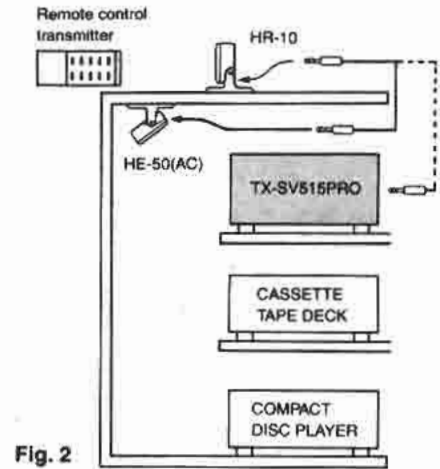

Fig. 2
- To enable remote control operation when the TX-SV515PRO is mounted in a rack which will not permit infra-red beams to pass, place the HR-10 somewhere outside the rack and set the HE-50(AC) in a position which will permit remote control operation of the TX-SV515PRO. The HE-50(AC) is not necessary when utilizing the ONKYO set with the **RI** mark. Please connect the HR-10 and TX-SV515PRO. (see Fig.2)